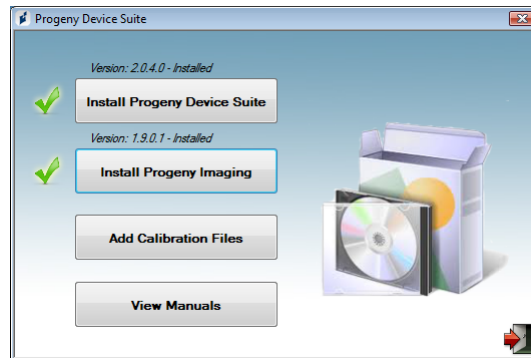

Figure 7: Progeny Device Suite and Progeny Imaging are installed
- Green check marks next to each of the 'Install Progeny Device Suite' and 'Install Progeny Imaging' buttons will appear when both the Progeny Device Suite and Progeny Imaging are installed (Figure 7).